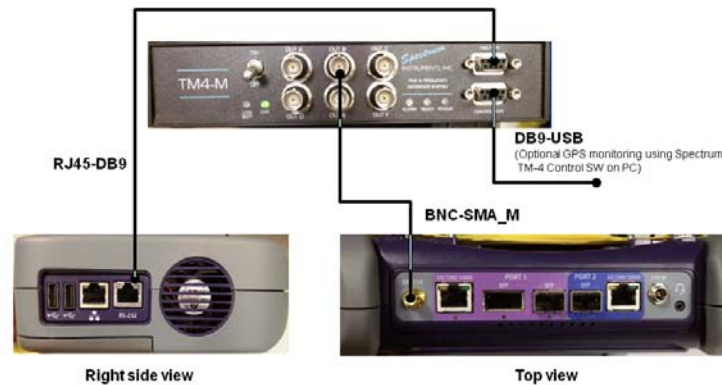

Figure 25 GPS Connection Diagram- MTS5800
- 2 Connect the ToD signal between the GPS receiver and the instrument using the RJ45 to DB9 cable, from the DB9 "Time Port" on the GPS receiver to the RJ45 serial connector (RS-232) on the instrument as shown in Figure 25.
- 3 Connect the 1PPS signal between the GPS receiver and the instrument using the BNC to SMA cable, from “OUT B” on the GPS receiver to the “EXT REF” connector on your instrument as shown in Figure 25.